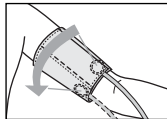

Fig. 12
8. Place stethoscope head so that it was located in depression, somewhat higher than elbow bend (Fig. 12). If You use the device with built-in stethoscope, to reach better auscultation of pulse on full hand, the cuff may be turned round the hand approximately by quarter of circle (60-90°) in such way that stethoscope head would be positioned on inner side of hand (more close to the body).